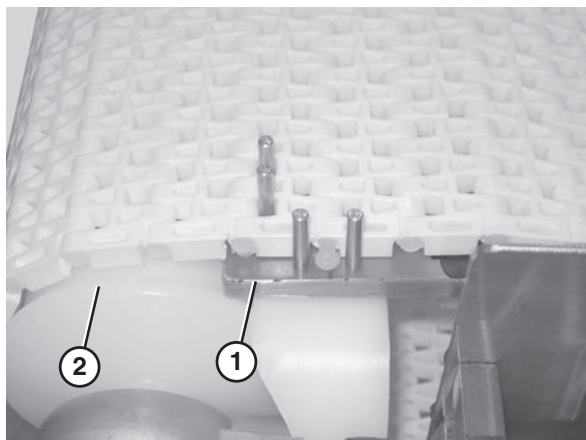

Figure 45
1. Secure the retaining head side of the belt. Use the belt removal tool (**Figure 45, item 1**) for 1" pitch belts. For all other belts, position the section of belt so that it is braced by the flanged puck (**Figure 45, item 2**).